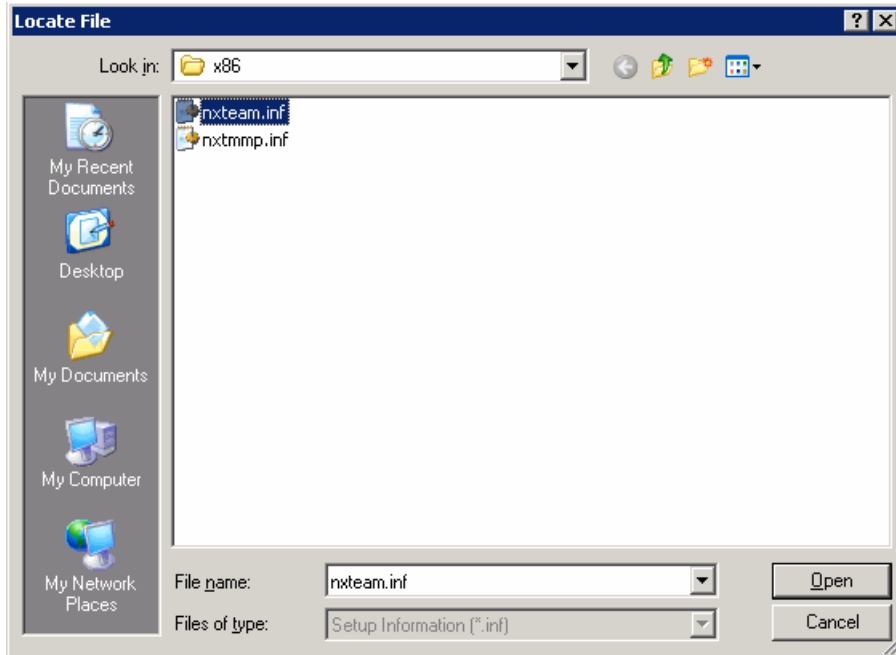

Figure 5-10 Locate file window
4. Highlight nxteam.inf driver (Figure 5-10 on page 70). Click **Open** to continue.